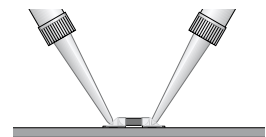

Figure 1.1.
- 2 With a soldering iron in each hand, hold one tip on the solder at one end of the component and the other tip on the other end (Figure 1.1).